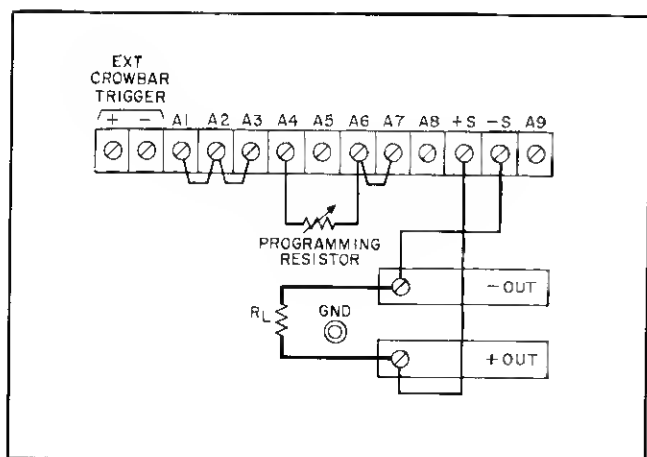

Figure 3-7. Resistance Programming of Output Current
**3-45 Constant Current Output, Resistance Input.** The rear panel connections shown in Figure 3-7 allow the output current to be varied by using an external resistor to program the supply. The supply's constant current programming current, which is factory adjusted to  $2.5\text{mA} \pm 10\%$ , determines the exact value of its programming coefficient. The programming coefficients for the supplies included in this manual are as follows: